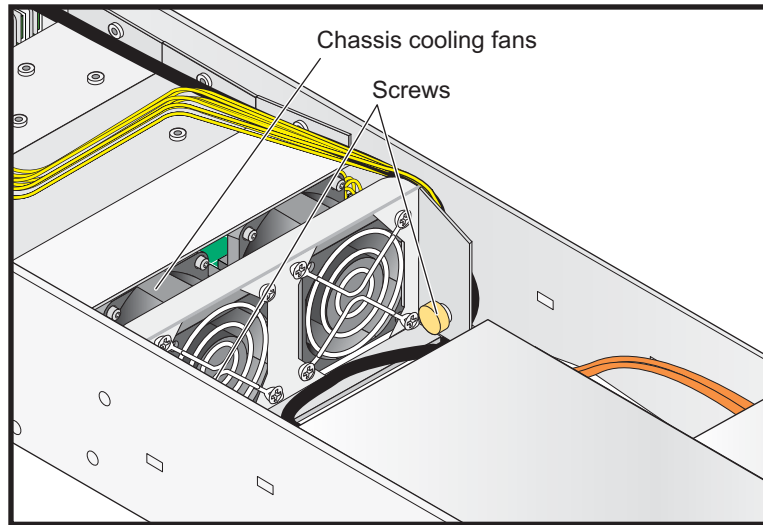

Figure 3-10 Cooling Fans Removal
2. Remove two screws (refer to Figure 3-10) that secure the fan assembly to the chassis.